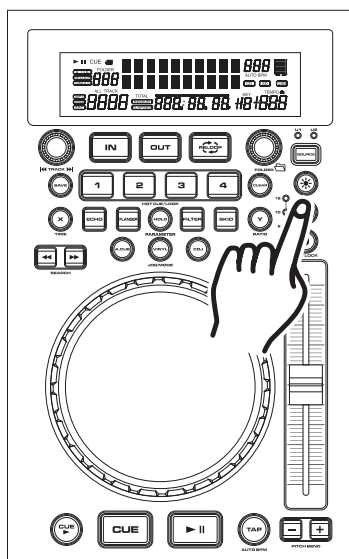

Figure 28
Adjusting the PITCH SLIDER'S RANGE (5): You may change the PITCH SLIDER'S (10) operating range at any time. To change the operating range be sure the pitch function is turned on, see figure 33. The pitch percentage can be changed between +/-6%, +/-10%, and +/-16%. 6% will allow the least amount of pitch manipulation and 16% will allow the most amount of pitch manipulation. To adjust the different ranges, press the PITCH ON/OFF BUTTON (4) and tap on the PITCH RANGE BUTTON (5) until your desired value is reached, see figure 28.